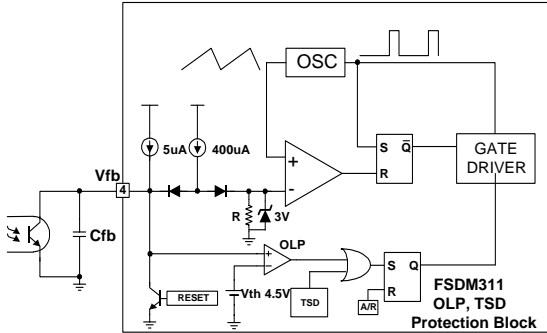

Figure 7. Protection block
**4. Protection Circuit :** The FSDM311 has 3 self protection functions: over-load protection (OLP), thermal shutdown (TSD) and over-voltage protection. Because these protection circuits are fully integrated into the IC with no external components, system reliability is improved without cost increase. If either of these functions are triggered, the FPS starts an auto-restart cycle. Once the fault condition occurs, switching is terminated and the MOSFET remains off. This cause Vcc to fall. When Vcc reaches the UVLO stop voltage (7V), the protection is reset and the internal high voltage current source charges the Vcc capacitor. When Vcc reaches the UVLO start voltage (9V), the device attempts to resume normal operation. If the fault condition is no longer present start up will be successful. If it is still present the cycle is repeated. This is shown in Figure 7.